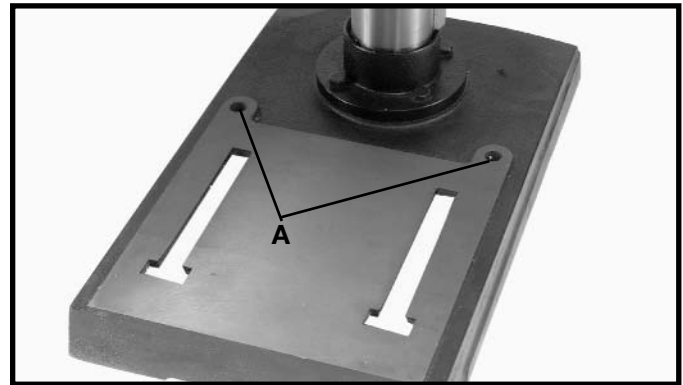

Fig. 16A
If during operation there is any tendency for the machine to tip over, slide or walk on the supporting surface, the machine base must be secured to the supporting surface with a M8x1.25x125mm carriage head screw, 8.5mm flat washer, 8.5mm lock washer, M8x1.25 hex nut, through the two holes (A) Fig. 16A, located in the machine base.